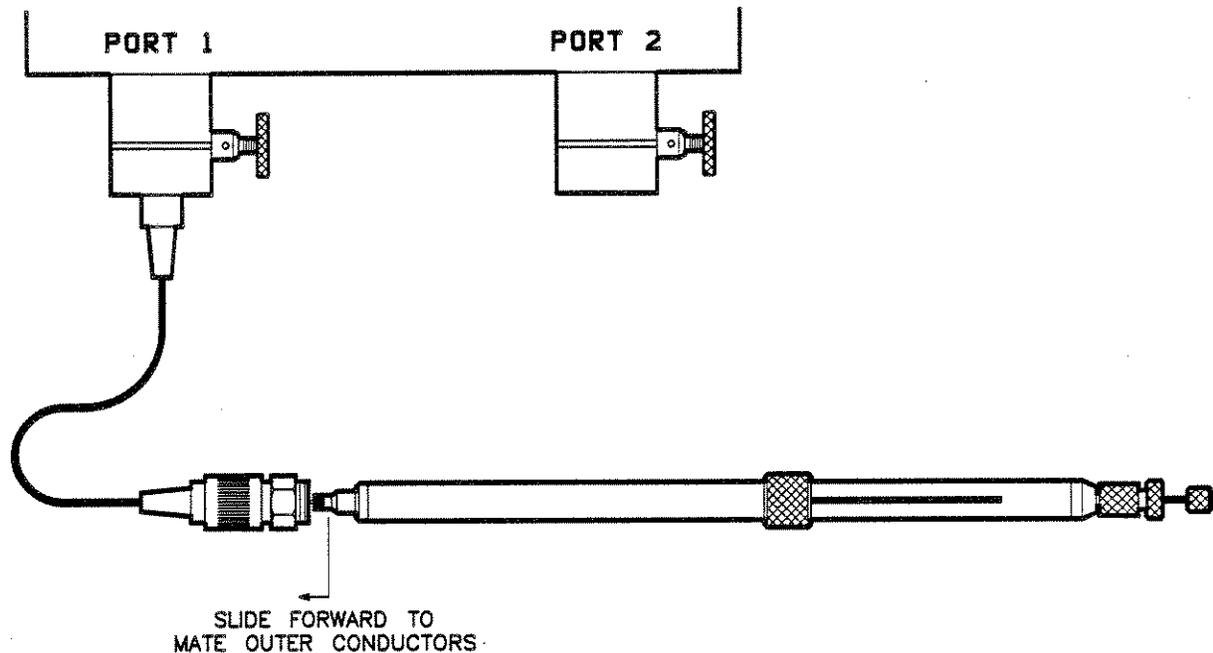

Figure 4-4. Mating the Outer Conductors
3. Mate the outer conductor of the sliding load with the cable/test port connector's outer conductor (Figure 4-4). Torque the connection to 8 in-lb.